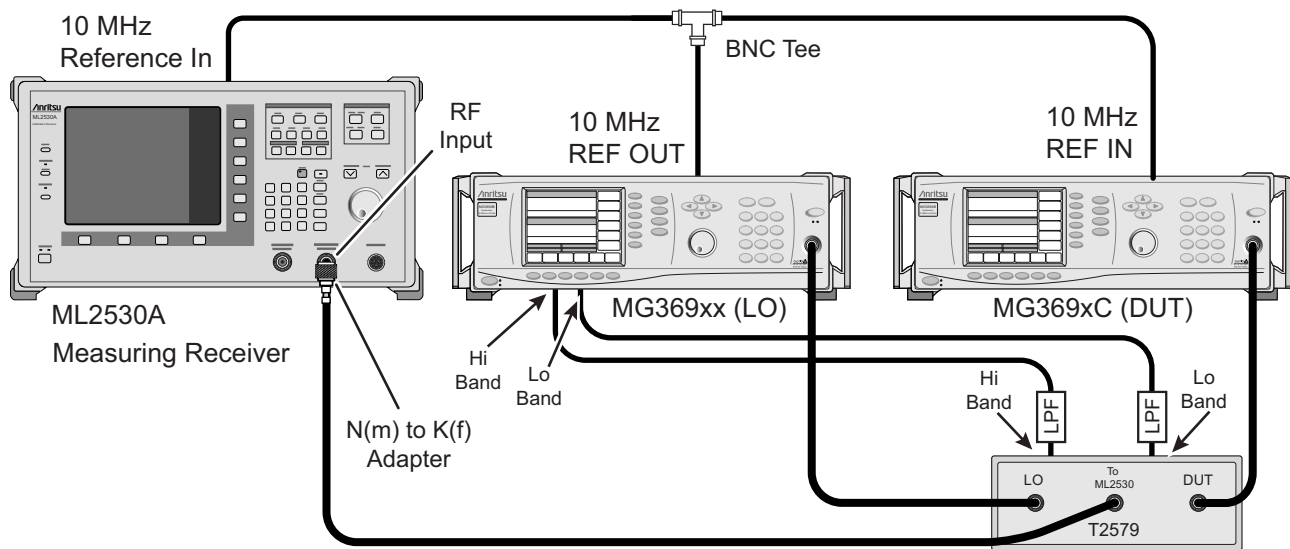

Figure 4-10. Equipment Setup for Power Level Accuracy and Flatness Tests Below -50 dBm Using T2579
5. If using the T2579 Mixer box, see Figure 4-10 and make the following connections: